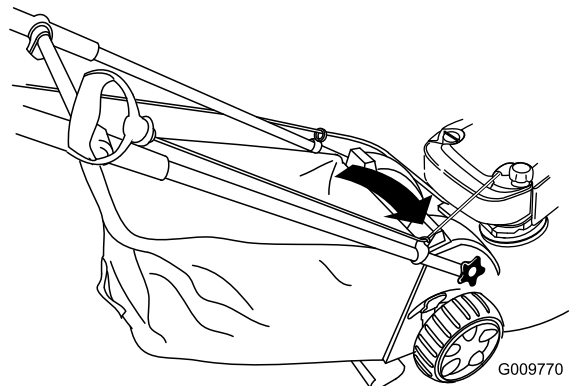

Figure 24
1. Route the starter rope around the lower rope guide (Figure 24).